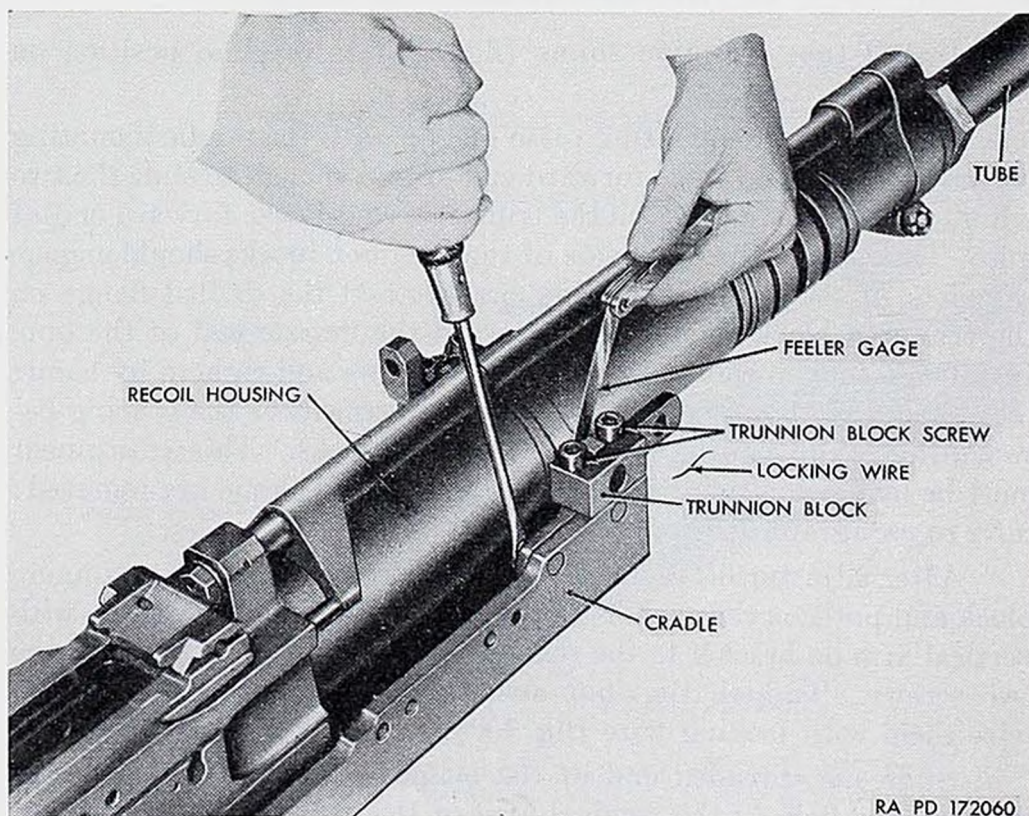

Figure 111. Measuring distance between recoil housing and trunnion block.
c. Pull muzzle end of tube to the left side to produce as much clearance as possible between trunnion block and recoil housing. The same results may be obtained by prying against the tube with a large screw driver inserted between the cradle and the tube, slightly to the rear of the trunnion block (fig. 111).
d. Place a feeler gage between recoil housing and right-hand trunnion block (fig. 111) and measure distance between them.